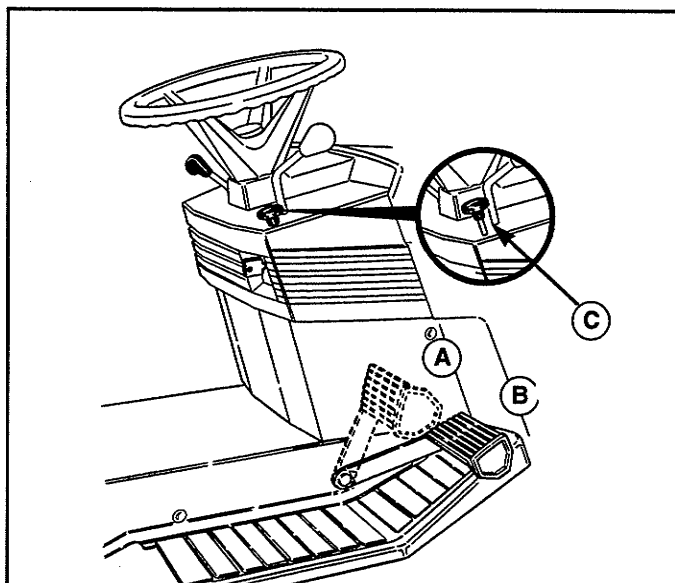

Figure 11. Clutch/Brake Pedal and Parking Brake (Brake Pedal Only - Gear Models)
1. See figure 11. Depressing the pedal to position A disengages the transmission drive and, when in a forward gear, returns the transmission control lever to neutral. Fully depressing the pedal to position B applies the tractor brake.
2. Parking brake is applied at pedal position B when parking brake control knob (C, figure 11) is pulled up with pedal fully depressed.
2. See figure 11. Depressing the brake pedal from position A to B applies the tractor brake. Parking brake is applied at position B when parking brake control knob (C) is pulled up with pedal depressed.
mowing height adjuster (B, figure 11).